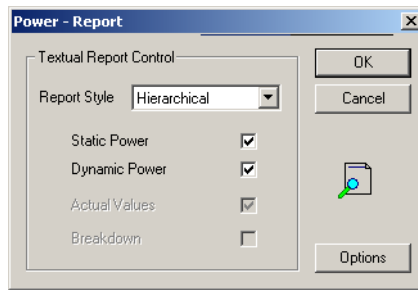

Figure 2-45. Power Report Dialog Box
2. **Choose *Power* in the Report list and click OK.** The Power Report dialog appears, as shown in Figure 2-45.